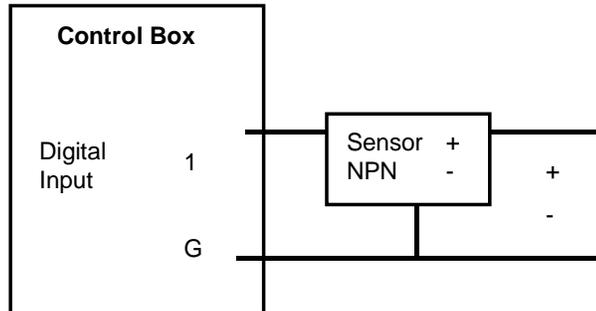

Figure 4-5: Digital Input Voltage from external sensing devices is connected to a Controller USB input
- 2) NPN sensing devices can be connected to Controller USB input. Connect the sensor output to a Controller USB input, and the sensor ground to a Controller USB input ground, as shown in Figure 4-5.